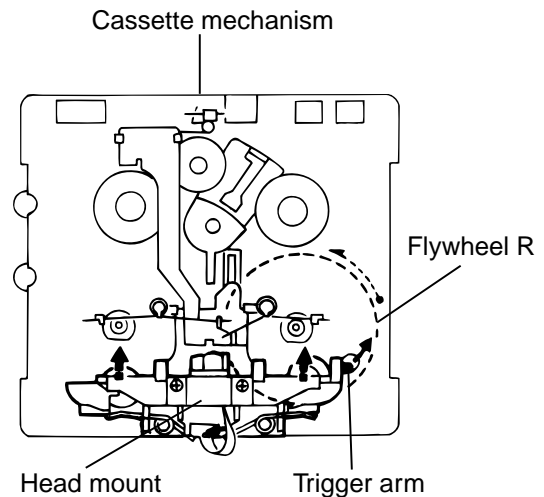

Fig. 1
■ Removing the playback/recording & eraser head ( See Figs. 1 and 2 )
1. While shifting the trigger arms seen on the right side of the head mount in the arrow direction, turn the flywheel R in counterclockwise direction until the head mount has gone out with a click (See Fig. 1).